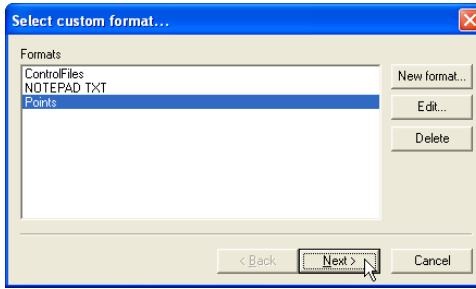

Figure 3-4. Select Format Type
2. On the *Select custom format* dialog box, select the format type and click **Next** (Figure 3-4). See “Creating Custom Import/Export Formats for Text Files” on page 2-2 for details on creating or editing import formats.